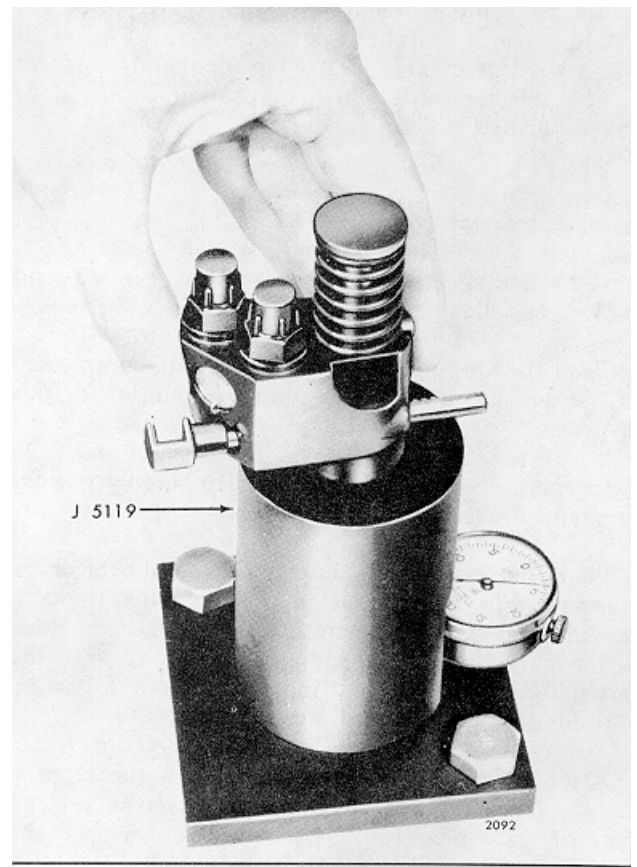

Fig. 42 Checking Injector Spray Tip Concentricity
1. Place the injector in the concentricity gage J 5119 as shown in Fig. 42 and adjust the dial indicator to zero.